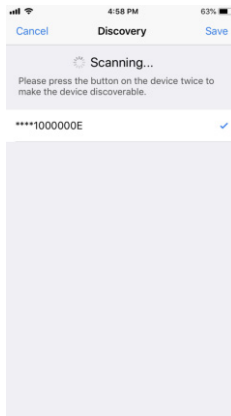

Figure 6
5. Once the device/device are discovered, tick the device/devices and tap "Save" button, the device/devices will be added successfully. (as shown in **Figure 6**)